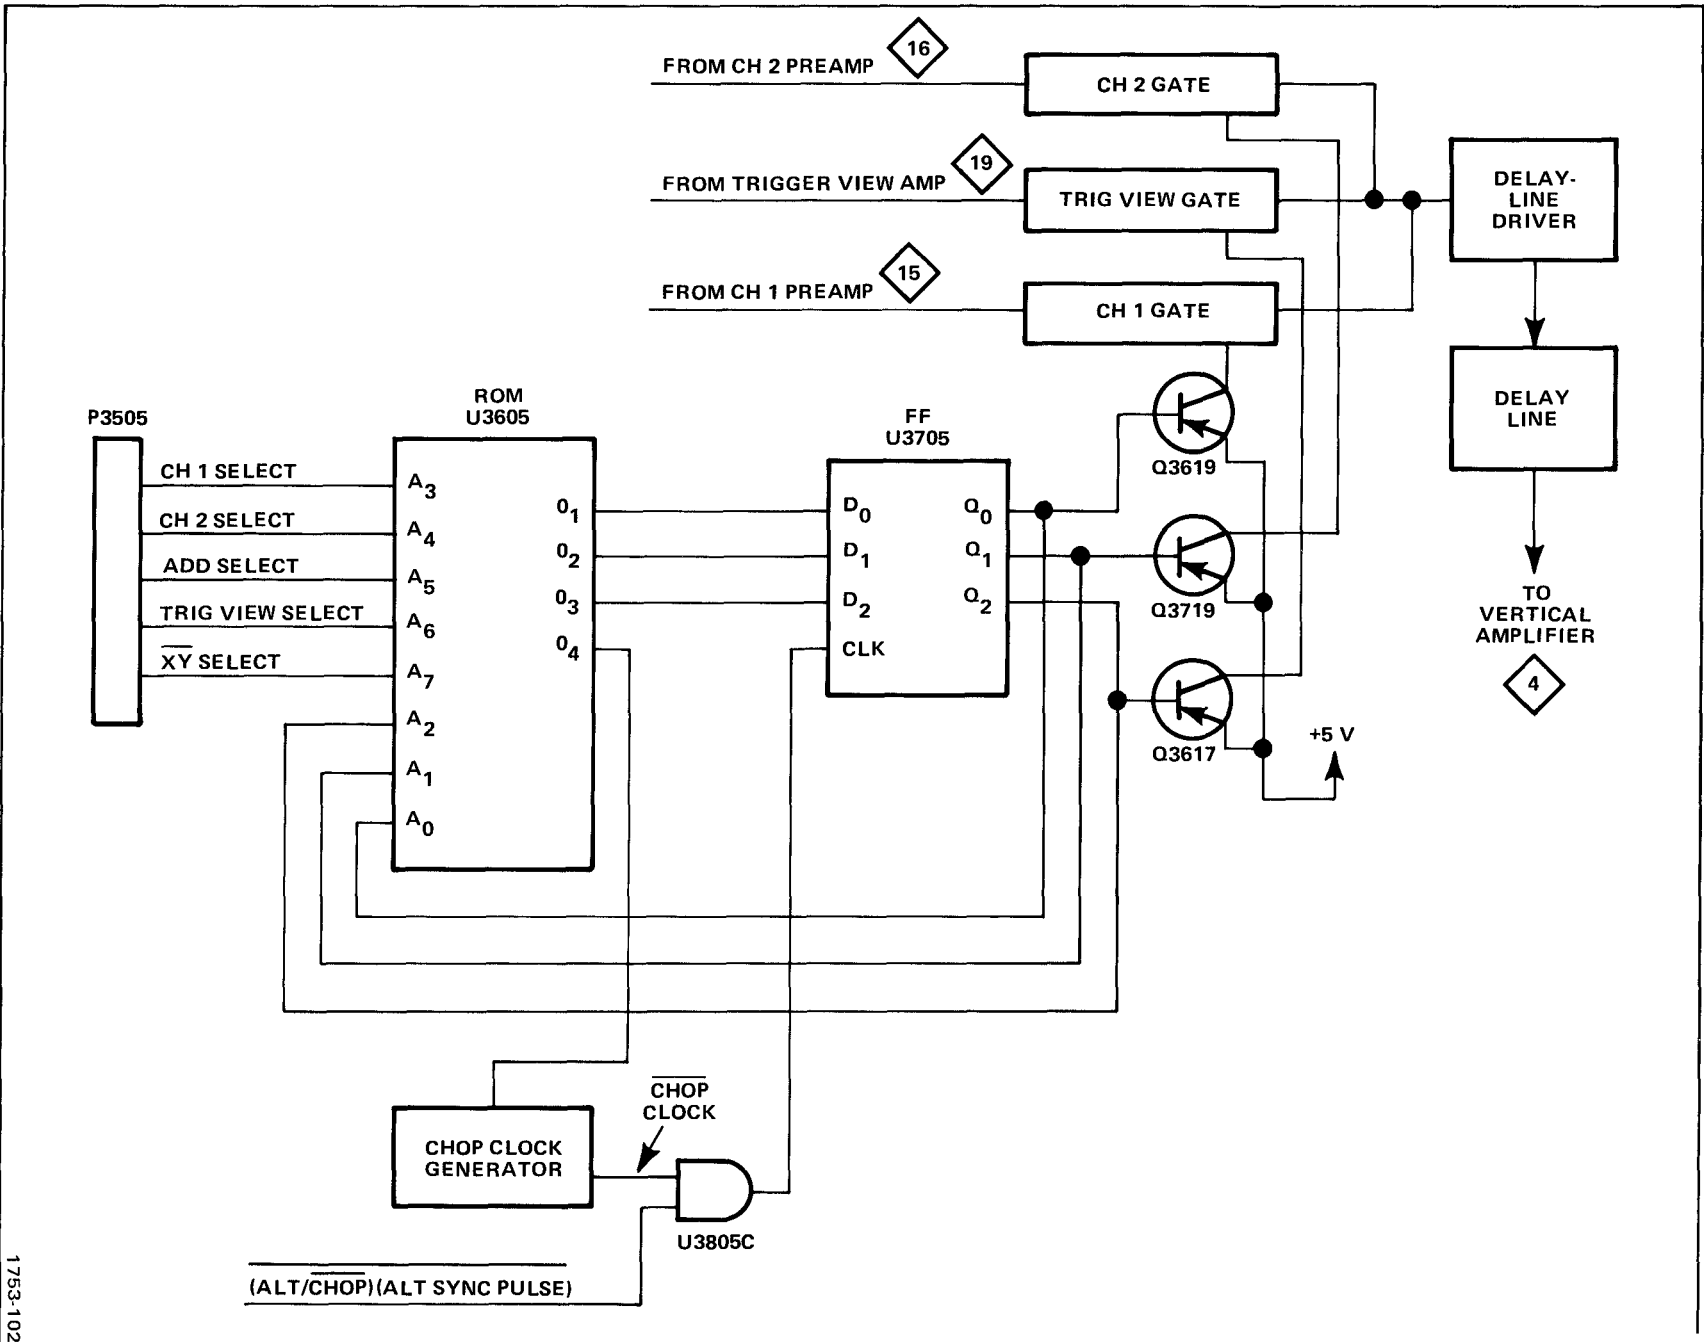

Fig. 3-2. Simplified block diagram of gate-control logic.
A read-only memory (ROM). U3605, and a quad flip-flop (FF), U3705, form the gate-control circuit. The gate-control circuit responds to inputs from the front-panel VERT MODE control and the A TIME/DIV control by enabling the appropriate diode gate(s). The enabled gate(s) then pass signals to the Delay-Line Driver. Figure 3-2 shows details of the gate-control logic.